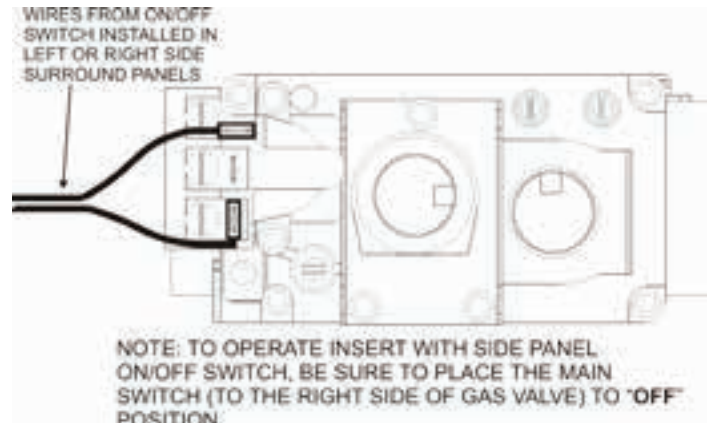

Figure 19
2. **Millivolt Valve** - Attach the flag terminal ends to the "TH/TP" and "TH" terminals on the front terminal block of the gas valve. **See Figure 19.**
- a. For millivolt valve connections, **See Figure 19.**